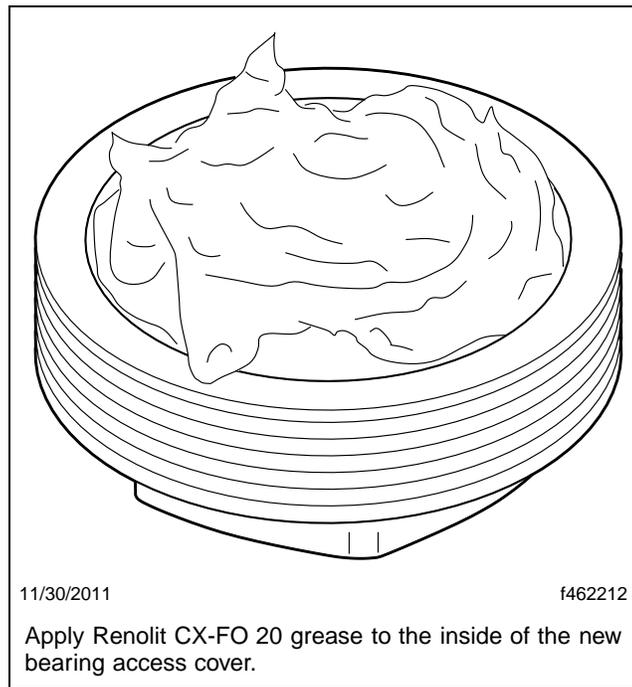

Fig. 20, Greased Bearing Access Cover
3. Fill the inside of the new bearing access cover to slightly above flush with Renolit CX-FO 20 grease. See **Fig. 20**. Save the remaining grease.